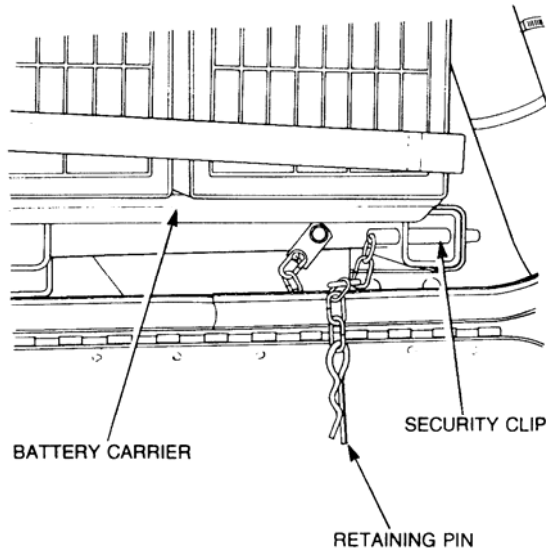

Figure 5 Left Side Battery Compartment
- Remove the security clip and pin from the left hand battery carrier (Figure 5) and slide the batteries and carrier clear of the vehicle body until the small bridging cable is exposed.